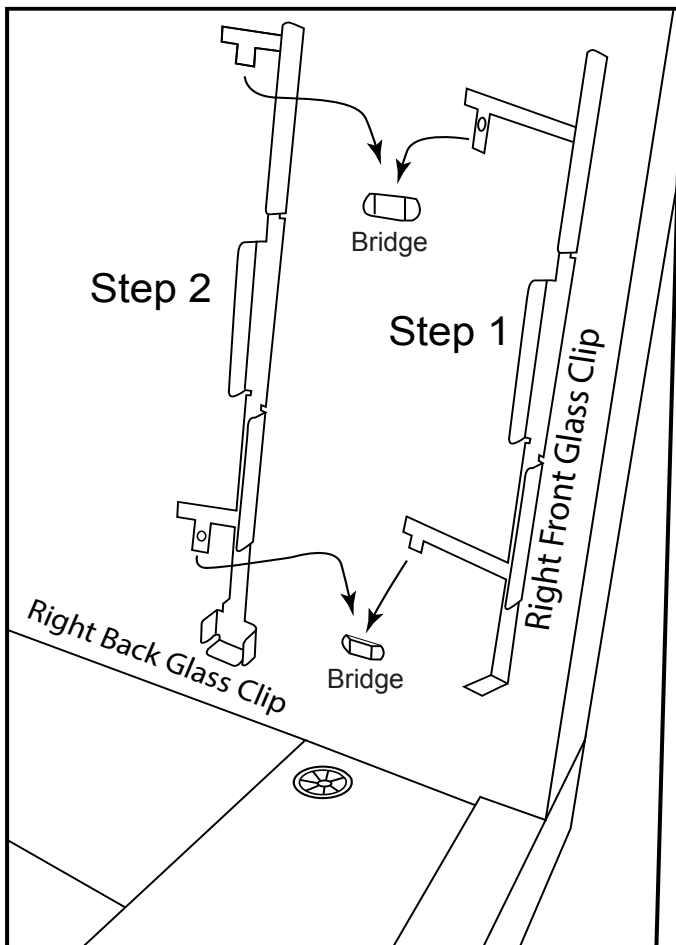

Fig. 20 Installing glass clips.
Install the longer glass clips by sliding them down through the metal bridges as shown in Fig. 20. Install (1) clip on the left and (1) clip on the right side of the inner fireplace side panel. **Note:** If you are preparing a see-through fireplace you will install a total of (8) glass clips, two for each open side. The additional clips are supplied with the see-through conversion kit.
**Step 4:** Install the windshield support into the bottom of the glass clip. Ensure the other end of the channel is also sitting inside the other glass clip. See Figs. 20 & 21 as a reference. **Note:** If you are installing into a see-through fireplace, install the other windshield support in the same manner.